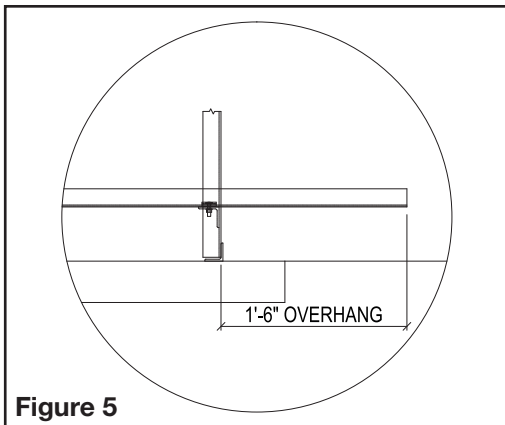

Figure 5
c. Place foot deck plank on rows 2 through 4 (if applicable) tread support. Be sure to maintain proper overhang of 1'6" off of frame (Figure 5).